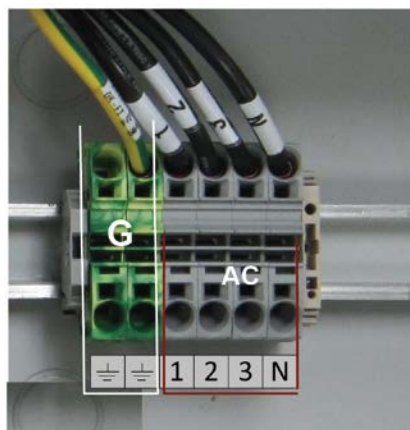

Figure 3:07 AC Grid Connections
- Refer to Figure 3:07. Locate the AC grid wiring at the inverter switchbox. Measure the voltage to ensure all connections to the grid have been eliminated and no hazardous voltage is present.